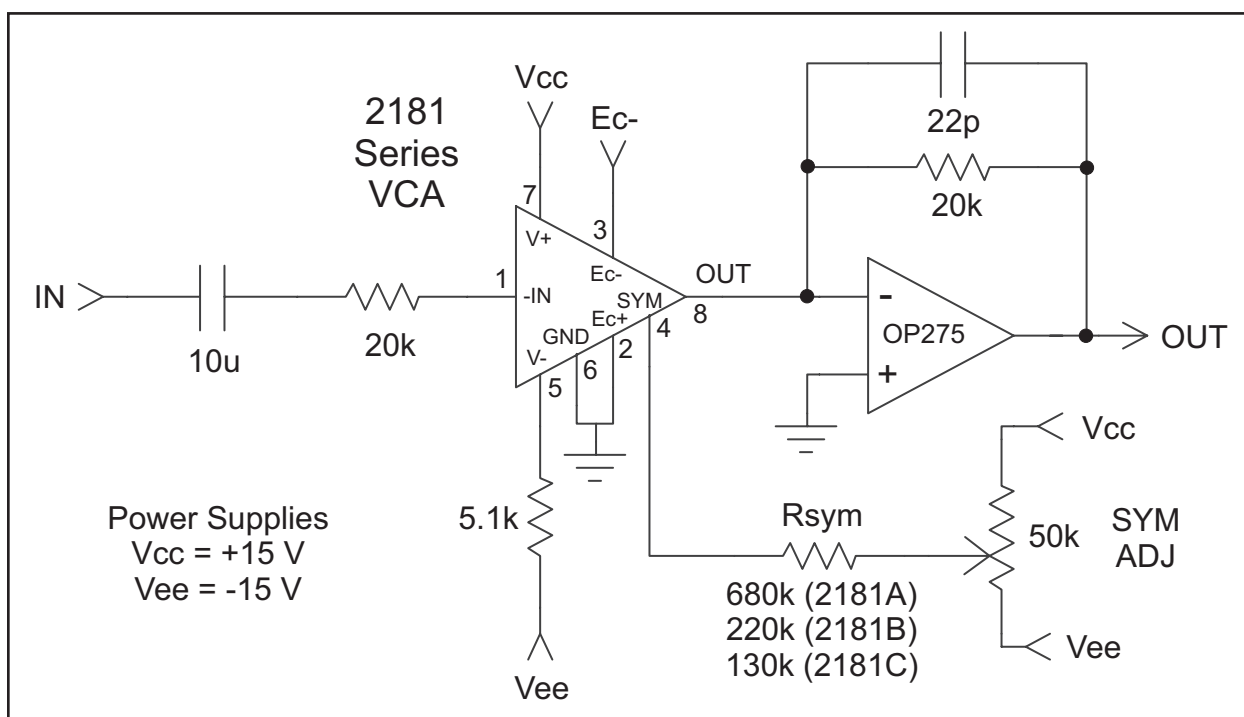
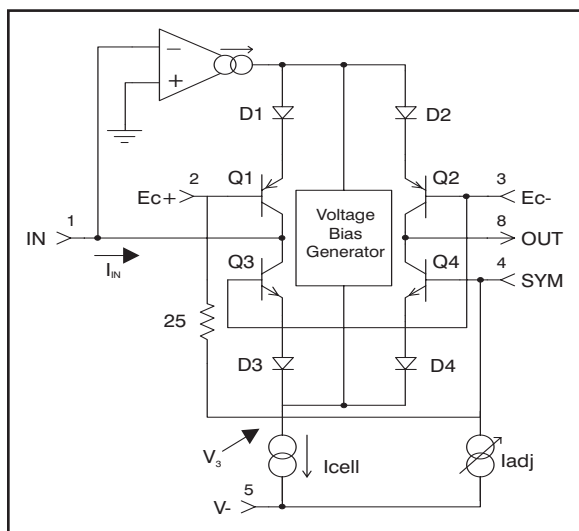
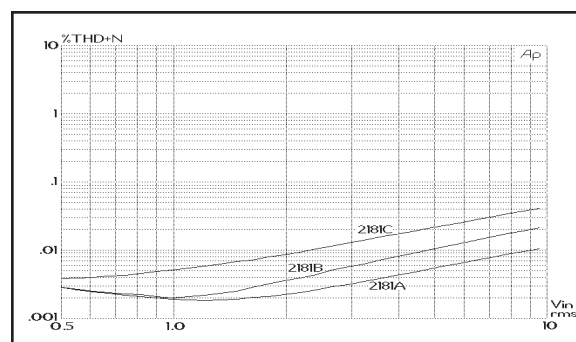

Figure 2. Typical Application Circuit
Figure 5. Simplified Internal Circuit Diagram
Figure 10. 1 kHz THD+Noise Vs. Input Level, 0 dB Gain
2. Unless otherwise noted, $T_A = 25^\circ\text{C}$, $V_C = +15\text{V}$, $V_{EE} = -15\text{V}$. Test circuit is as shown in Figure 2. SYM ADJ is adjusted for minimum THD at 1 V, 1 kHz, $E_{C-} = -E_{C+} = 0\text{ V}$
Figure 5 presents a considerably simplified internal circuit diagram of the IC. The ac input signal current flows in pin1, the input pin. An internal operational transconductance amplifier (OTA) works to maintain pin 1 at a virtual ground potential by driving the emitters of Q1 and (through the Voltage Bias Generator) Q3. Q3/D3 and Q1/D1 act to log the input current, producing a voltage, V3, which represents the bipolar logarithm of the input current. (The voltage at the junction of D1 and D2 is the same as V3, but shifted by four forward V_{be} drops.)
The 2181 current consumption is determined by the resistor between pin 5 (V_-) and the negative supply voltage (V_{EE}). Typically, with 15V supplies, the resistor is $5.1\text{ k}\Omega$, which provides approximately 2.4 mA. This current is split into two paths: $570\text{ }\mu\text{A}$ is used for biasing the IC, and the remainder becomes I_{cell} as shown in Figure 5. I_{cell} is further split in two parts: about $20\text{ }\mu\text{A}$ biases the core transistors (Q1 through Q4), the rest is available for input and output signal current.
The 2181-Series VCAs are intended to be adjusted for minimum distortion by applying a small variable offset voltage to pin 4, the SYM pin. Note that there is a $25\text{ }\Omega$ resistor internal to the 2181 between pin 4 and pin 2. As shown in Figure 2, Page 3, the usual method of applying this offset is to use the internal $25\text{ }\Omega$ resistor along with a
The 2181-Series VCA design, fabrication and testing ensure extremely good audio performance when used as recommended. The 2181 maintains low distortion over a wide range of gain, cut and signal levels. Figures 10 through 12 show typical distortion performance for rep-
The Input pin (pin 1) is a virtual ground with negative feedback provided internally (see Figure 5, Page 4). The input resistor (shown as 20 k Ω in Figure 2, Page 3) should be scaled to convert the available ac input voltage to a current within the linear range of the device. Generally, peak input currents should be kept under 1 mA for best distortion performance.
Refer to Figures 10 through 12 to see how distortion varies with signal level for the three parts in the 2181 Series for 0 dB, +15 dB and -15 dB gain. The circuit of Figure 2, Page 3 was used to generate these curves.
A designer may trade off noise for distortion by decreasing the 20 k Ω current-to-voltage converting resistors used at the input and output in Figure 2, Page 3. For every dB these resistor values are de-
The Output pin (pin 8) is intended to be connected to a virtual ground node, so that current flowing in it may be converted to a voltage (see Figures 2 & 15). Choose the external opamp for good audio performance. The feedback resistor should be chosen based on the desired current-to-voltage conversion constant. Since the input resistor determines the voltage-to-current conversion at the input, the familiar ratio of R_f/R_i for an inverting opamp will determine the overall voltage gain when the 2181 is set for 0 dB current gain. Since the VCA performs best at settings near unity gain, use the input and feedback resistors to provide design-center gain or loss, if necessary.
The SYM pin (pin 4) is actually a sort of additional positive-sense control port. It is provided to allow V_{be} mismatches in the core transistors to be adjusted after packaging and installation in the circuit board. It should only be used for this purpose. Connect pin 4 only to a high-impedance source as shown in Figures 2 and 15.